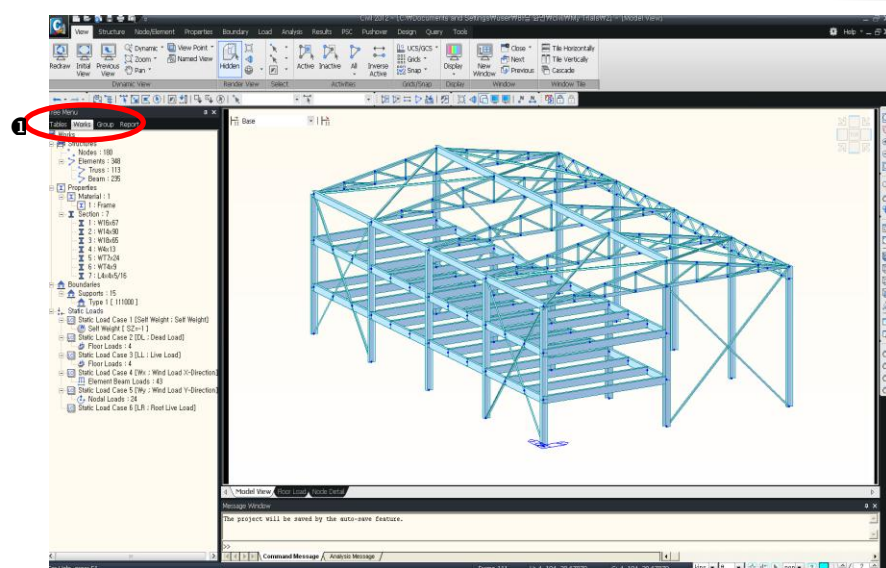

Figure 2.25 Selection of the Works tab of Tree Menu
1. Select the **Works** tab as shown in Fig.2.25–①.